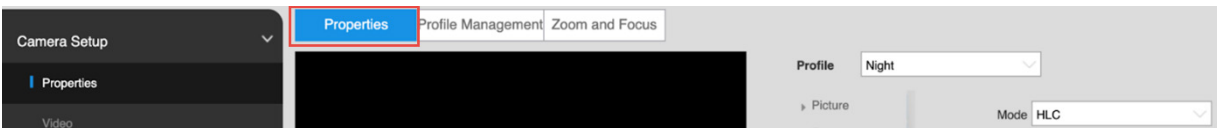

Fig. 4.16
15. Next, select the “Properties” tab, see Fig. 4.16.